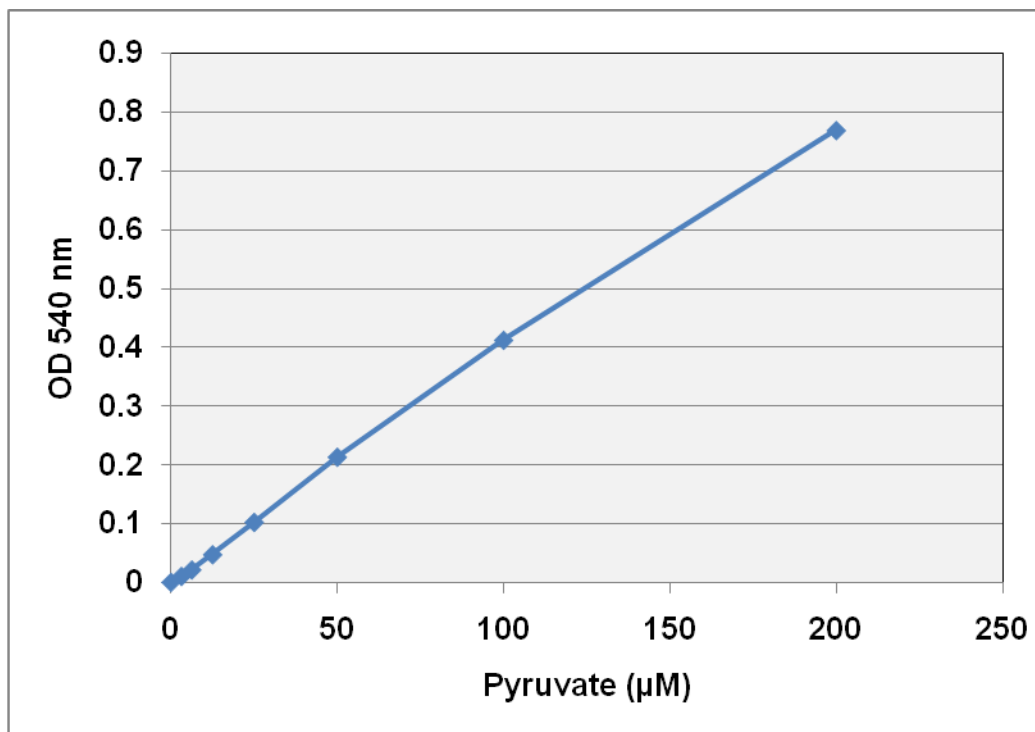

Figure 2: Pyruvate Standard Curve.
2. Plot the corrected absorbance for the standards against the final concentration of the pyruvate standards from Table 2 to determine the best curve. Use the 60 minute reading values, or final time point absorbance values, to plot the pyruvate standard curve. See Figure 2 for an example standard curve.